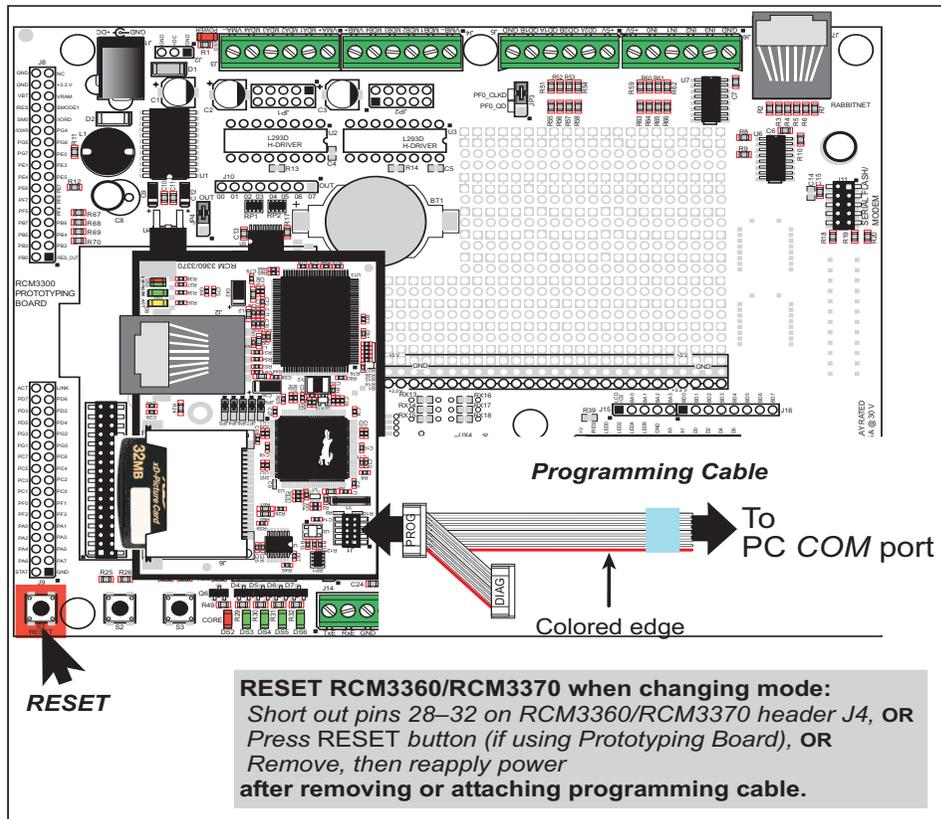

Figure 8. Switching Between Program Mode and Run Mode
2. Reset the RCM3360/RCM3370. You may do this as explained in Figure 8.